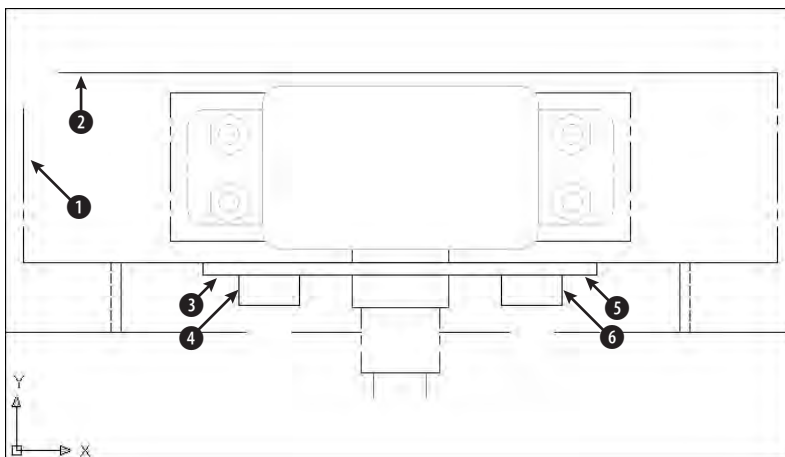

Figure 10-33: A mechanical drawing showing a small section of a porcupine mixer
2. Save the file as `ab10-11.dwg` in your *AutoCAD Bible* folder. This is the same drawing used in the previous exercise. It is shown in Figure 10-33.
4. At the **Select first object** or **[Polyline/Radius/Trim/mUltiple]:** prompt, pick the line at **1** in Figure 10-33. At the **Select second object:** prompt, pick the line at **2**. AutoCAD fillets the two lines.
6. At the `Select first object or [Polyline/Radius/Trim/multiple]:` prompt, right-click and choose `multiple`. Pick the line at ③ in Figure 10-33. At the `Select second object:` prompt, pick the line at ④. AutoCAD fillets the two lines. The prompts continue. This time pick at ⑤ and ⑥.